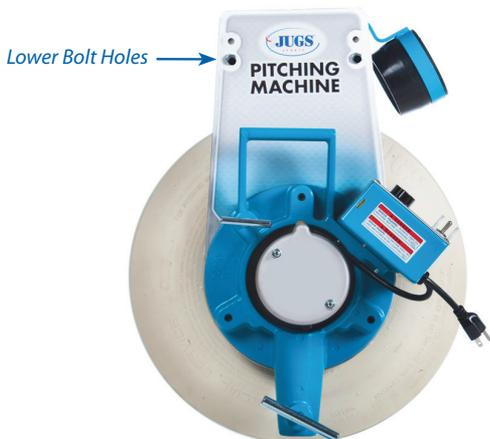

Figure 6
The rotating plate has 2 sets of bolt holes (Figure 6). The lower set of bolt holes is used for baseball, and lacrosse. Use the bolts provided to attach the rubber pad bracket to the rotating plate described below (½-inch wrench).
3. Position the rubber pad bracket until the bolt holes line up with lower bolt holes for baseball, (Figure 6).